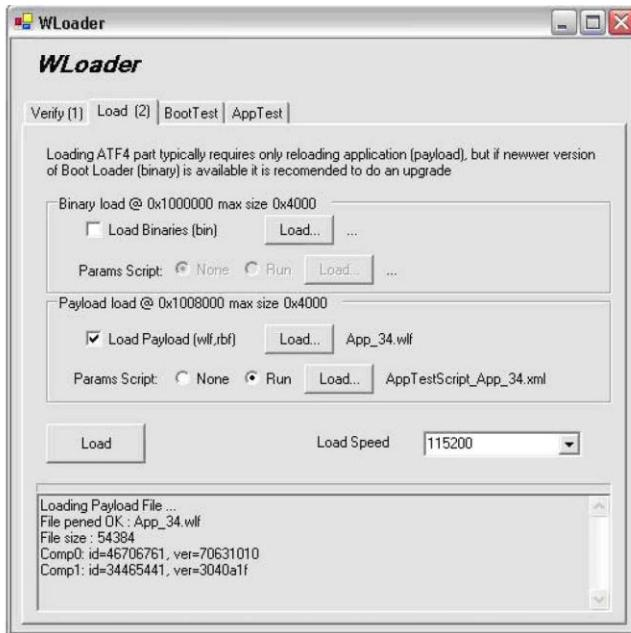

Figure 8-3 WLoader window - Load (2)
7. At the end of this process the window will display the current loading information as shown in Figure 8-3.